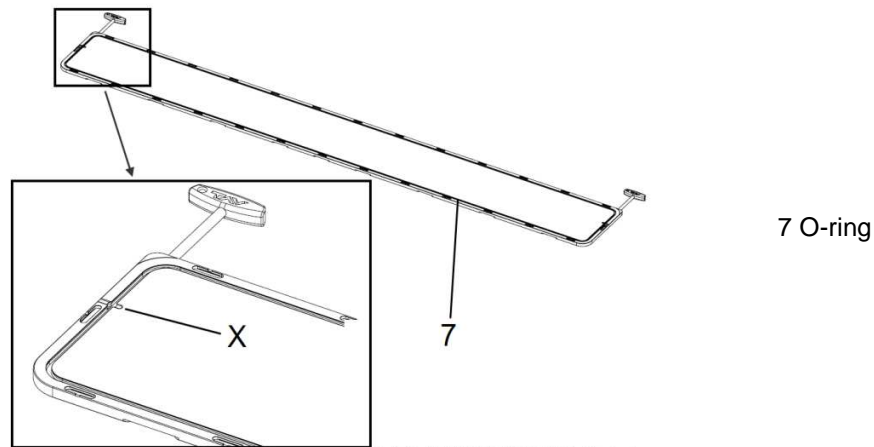

Figure 6-3
8. Clean 4x guidance (5) if required
9. Remove O-ring (7) with O-ring removal tool; see «Figure 6-1» on page 25. Begin at the indicated access point (X); see «Figure 6-3».